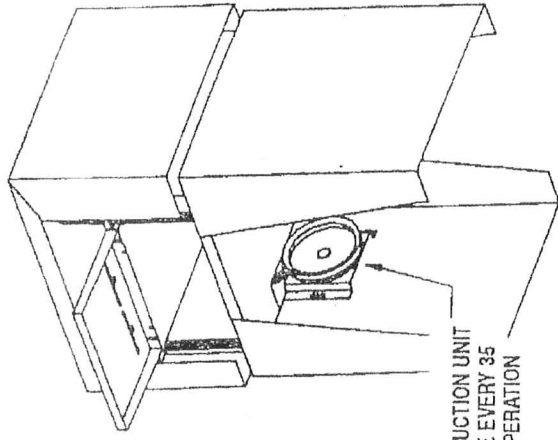

Fig. A-13
For the fast feed rate the drive belts for the dual V-pulley and the reduction unit are removed (see fig. A-13). Then the reduction unit is driven directly from the cutterhead by a longer belt.
4. Grease reduction unit every 35 hours of operation, not more than 8 pumps from a grease gun. Do not over grease as excess will cause belt slippage (see fig. A-13).